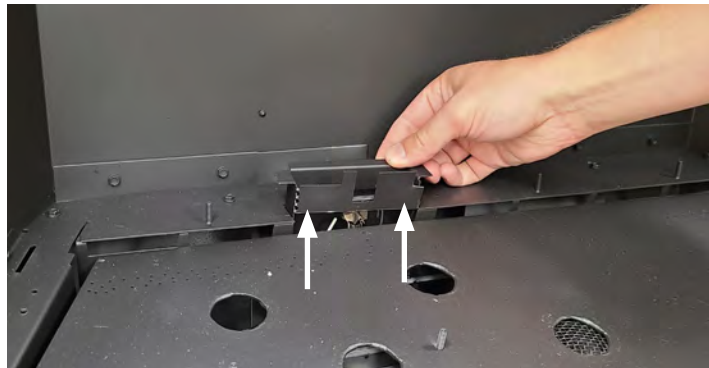

Figure 15.2.01:
- Install the Pilot Shield (reverse of **Figure 15.2.01**)